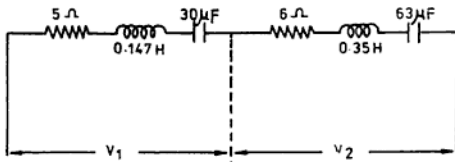

Fig. NE 11.29
- 11.29 The circuit shown in Fig. NE 11.29 is connected to a 110 V , 60 Hz supply. Calculate: